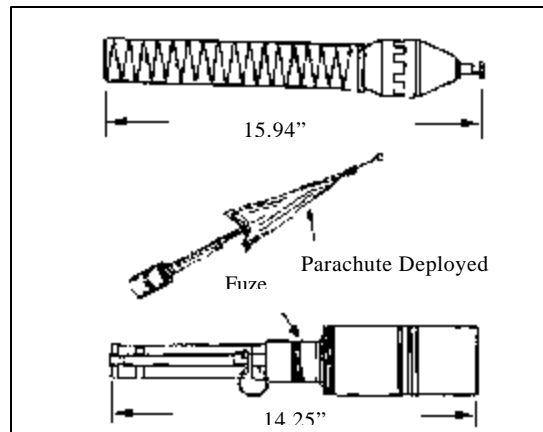

Figure 65. AT grenades.
- (4) AT grenades are designed to be thrown at tanks and other armored vehicles. They have a shape-charge explosive warhead and are stabilized in flight by a spring-deployed parachute or a cloth streamer. See Figure 65. These grenades use impact fuzing.